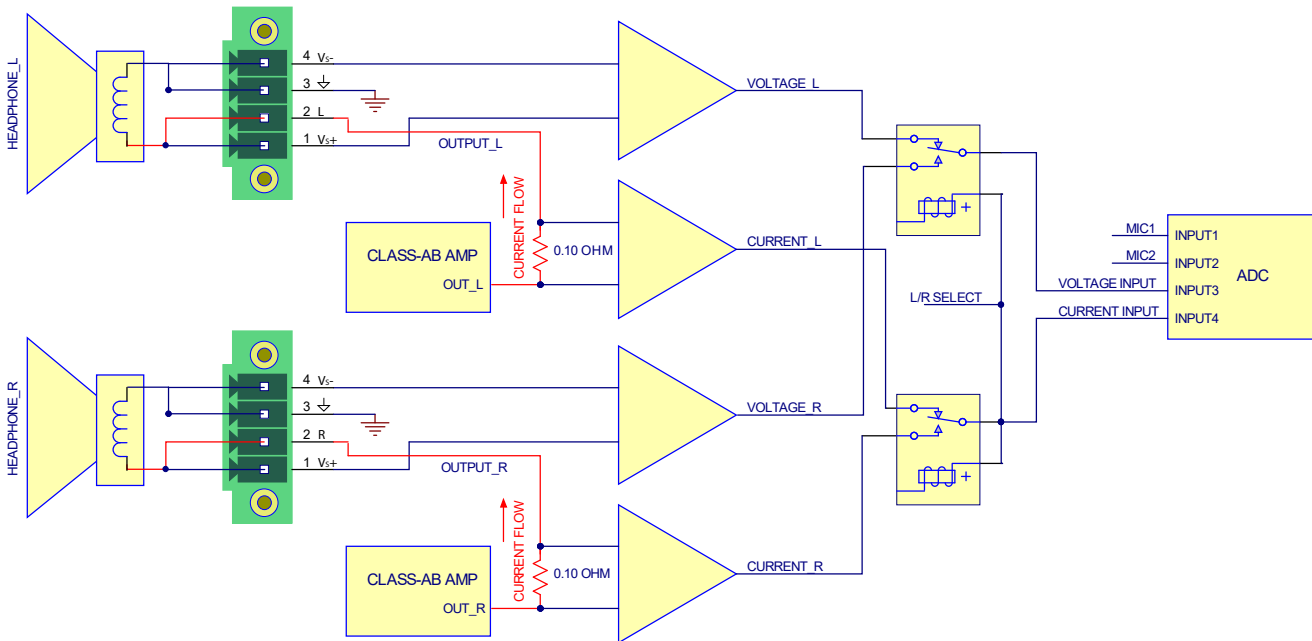

Figure 11 AIO-H module block diagram
Voltage measured directly at the speaker terminals is monitored on input 3 of the AIO-H module using two wires connected from the headphone terminals directly to the (VL) and (VR) remote sense terminals on the connector. The left or right channel is selected via the AIO control panel. By connecting directly at the headphones, the voltage drop across the headphone wires does not affect the measurement. Please refer to Figure 11.
Precision current sense resistors are placed in series with the outputs. A voltage across these resistors is generated by the signal and is monitored using input 4 of the AIO-H module. The sense resistor voltage can be used to derive the current through the connected driver. The left or right channel is selected via the AIO control panel. There are no external connections to these current sense resistors or circuits. Please refer to Figure 11.